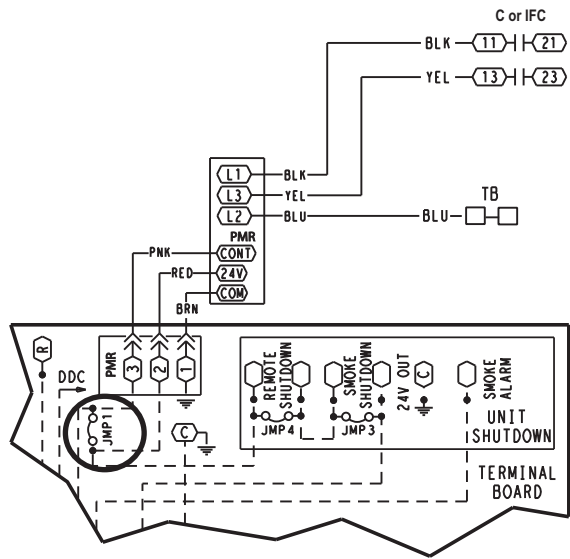

Fig. 6 - Wiring Diagram
On the compressor contactor (C) or (C1) or on the Indoor Fan Contactor (IFC) on units with crankcase heater, connect the black wire to terminal “11” and the yellow wire to terminal “13.” Connect the blue wire to the input power terminal board (TB). (See Fig. 6.)